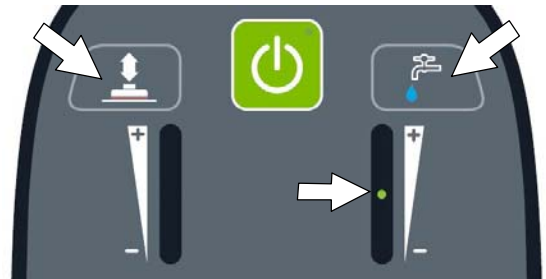

FIG. 155
4. To save the selected mode, press and hold the brush pressure button and the solution flow button together until the LED turns solid, approximately 3 seconds (Figure 155).